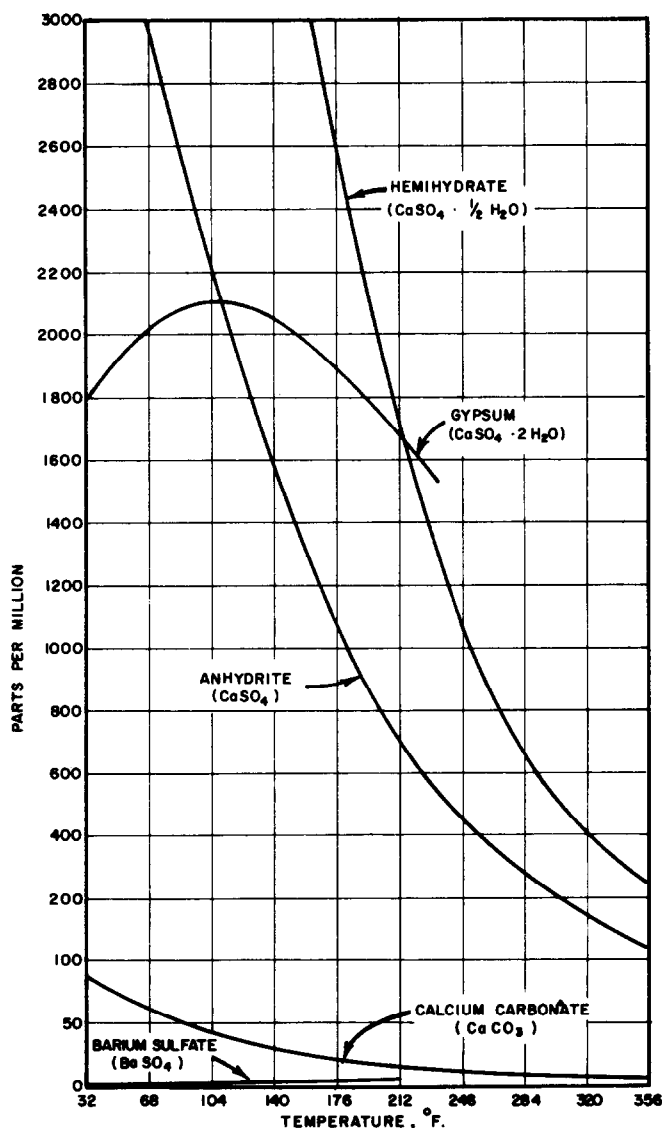

FIG. 2—SOLUBILITY OF CALCIUM CARBONATE, CALCIUM SULFATE AND BARIUM SULFATE
Calcium sulfate exists in several crystalline forms. These include gypsum, which is $\text{CaSO}_4 \cdot 2\text{H}_2\text{O}$; hemihydrate, $\text{CaSO}_4 \cdot 1/2\text{H}_2\text{O}$; and anhydrite, CaSO_4 . Although the solubility curves (Fig. 2) of these crystalline forms versus temperature show that above about 40°C (104°F), anhydrite is the thermodynamically stable form, we know from experience that gypsum is the form most likely to precipitate up to a temperature of about 100°C (212°F). Above this temperature, hemihydrate becomes less soluble than gypsum and will normally be the form precipitated. This can, in turn, dehydrate to leave a scale of anhydrite. So, for solubility limits, we can look to
3. **Temperature (Fig. 2).** Gypsum shows a different response to temperature than did calcium carbonate. Solubility of gypsum increases with temperature up to about 40°C. Beyond this, the solubility relationship becomes inverse and decreases with further increases in temperature.